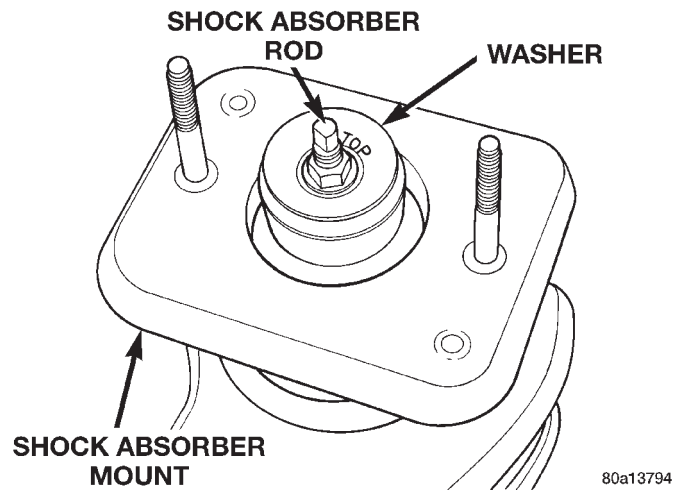

Fig. 55 Shock Absorber Upper Mount Washer
(6) Remove the washer from the shock absorber upper mounting bracket (Fig. 55).
(10) Install the top washer (Fig. 55) on rod of shock absorber and position it over shock absorber mount. **Washer must be installed with the word TOP stamped into washer facing up (Fig. 55).**